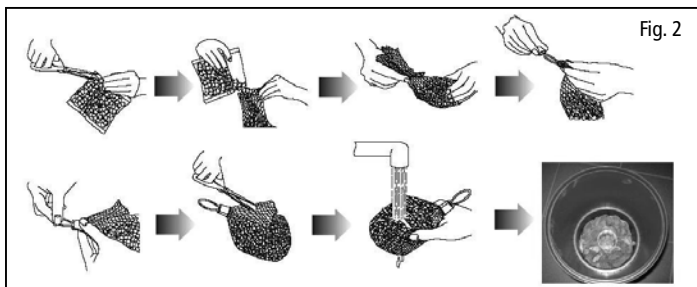

Fig. 2
- The Biological Media must be placed in the Filter Case as indicated in the picture (except Pressure-Flo Clean 700/2500) (Fig. 2)